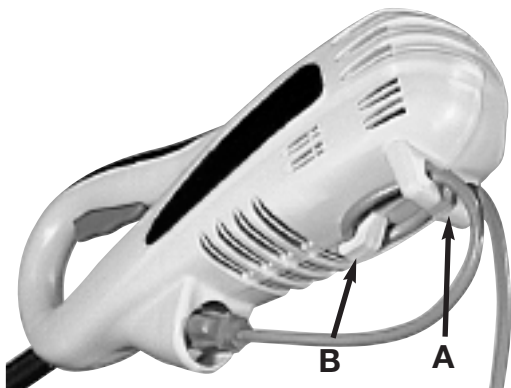

Fig. 3
3. Place the loop into the slot (A) under the motor housing and lock into place with cord retainer (B) in Fig. 3